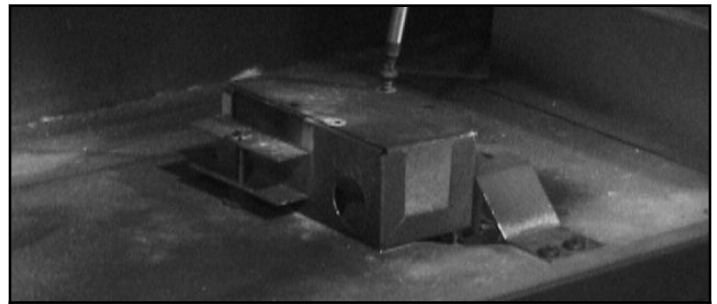

Figure 1.6 Remove the Air Shutter Cover
- Caliber CD Series: Remove the two screws so air shutter cover can be removed. See Figure 1.6.